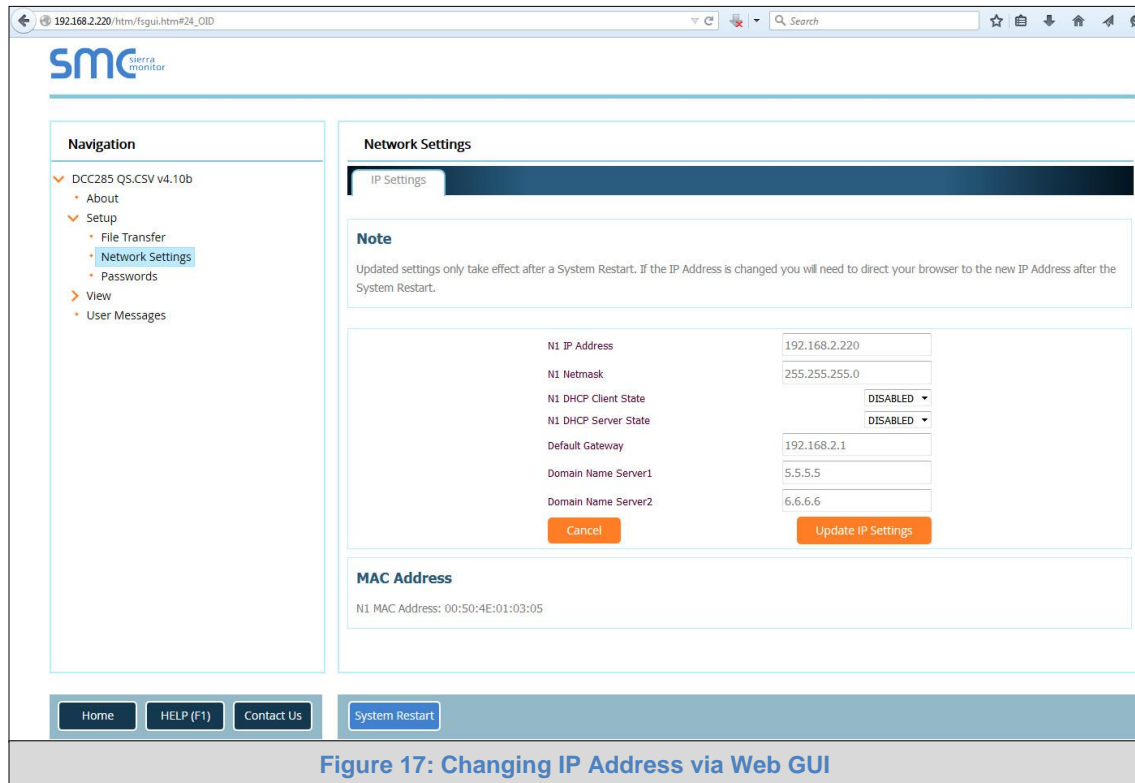

Figure 17: Changing IP Address via Web GUI
- From the Web GUI's landing page, click on "Setup" to expand the navigation tree and then select "Network Settings" to access the IP Settings menu. (Figure 17)